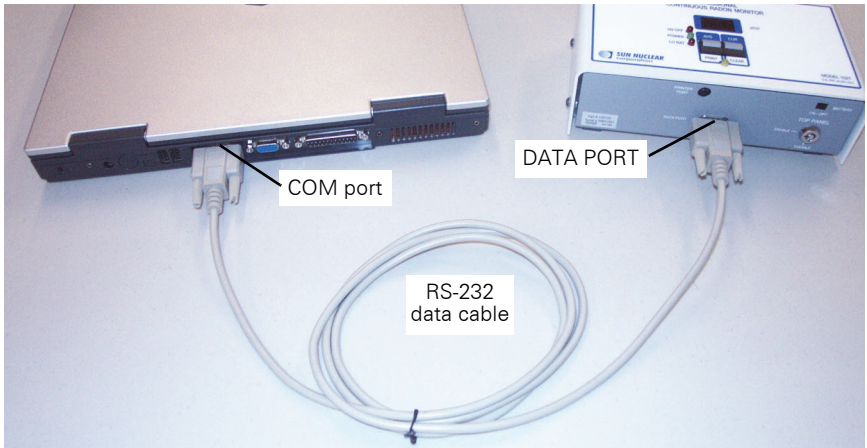

Figure 2-3. Connecting Radon Monitor to Computer with RS-232 Serial Cable
- 1 Connect one end of RS-232 data cable to Model 1027's **DATA PORT** and other end to computer's serial (9-pin) **COM port** (Figure 2-3).